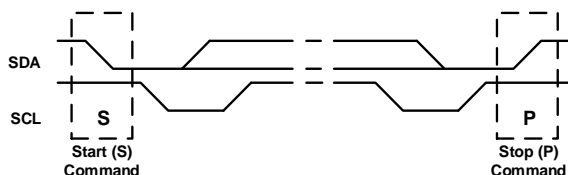

Figure 8: Start and Stop Commands
Start (S) and stop (P) commands are signaled by the master device, which signifies the beginning and the end of the I²C transfer. A start command is defined as the SDA signal transitioning from high to low while the SCL is high. A stop command is defined as the SDA signal transitioning from low to high while the SCL is high (see Figure 8).